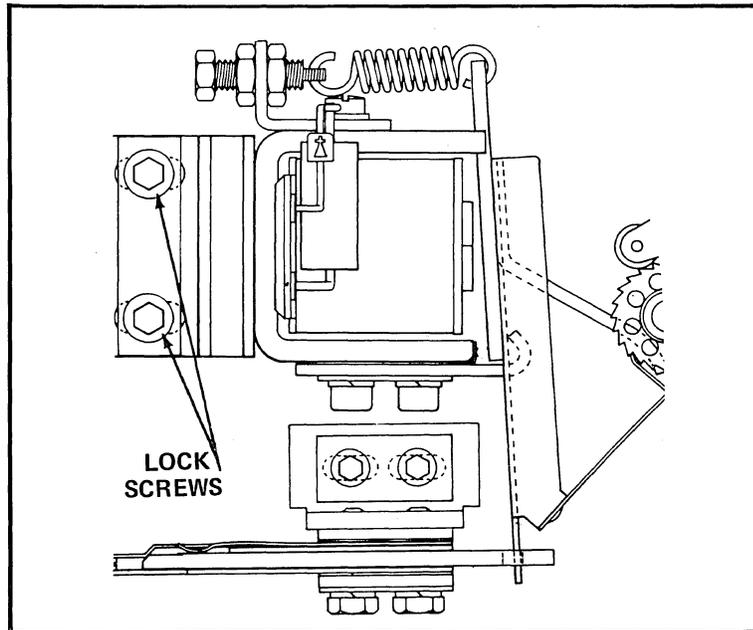

Figure 6-7 Magnet and Feed Pawl
- (3) To reposition the pawl in relation to the ratchet, it is necessary to reposition the magnet assembly. Two lock screws secure the magnet assembly housing to the main plate. By loosening these screws, the assembly can be adjusted into the correct position. See Figure 6-7.